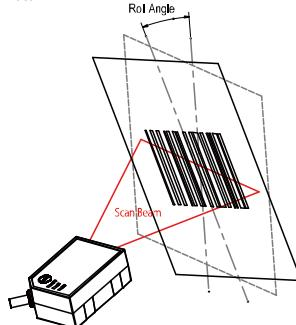

Figure 2: Skew, Pitch and Roll Angle Illustration
- When placing the barcode label, one must be careful not to over tilt, skew and/or pitch the barcode (Refer to figure 2)